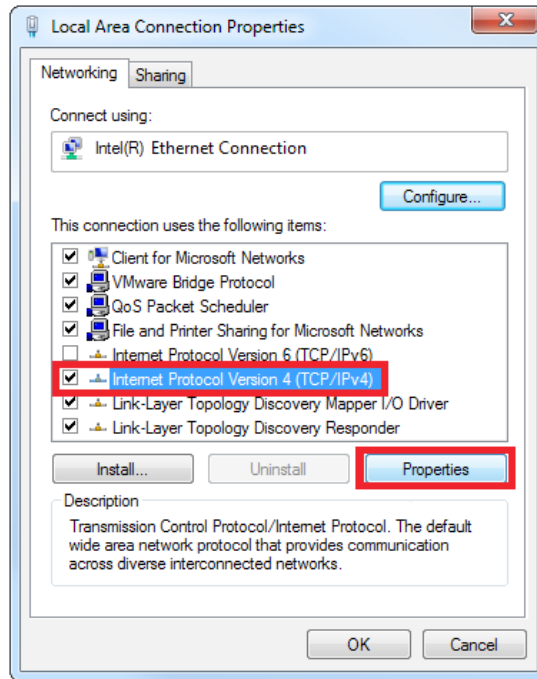

Figure 14 – Local Area Connection Properties window
- The "Local Area Connection Properties" window will open (Figure 14).
- Highlight "Internet Protocol Version 4 (TCP/IPv4) in the items list and then click the "Properties" button on the right-hand side of the window (both shown in Figure 14 below).